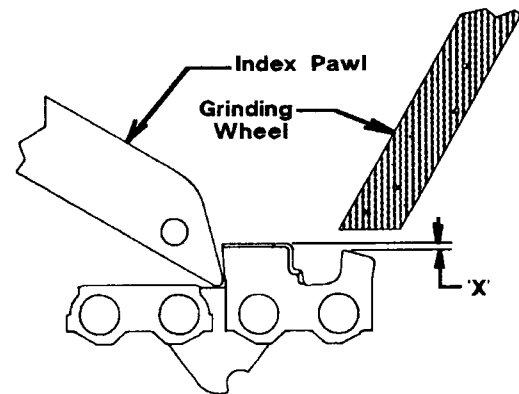

FIG 2-32
Depth gauges should be maintained at the saw chain manufacturer's recommended setting (X). Use a 1/4" grinding wheel with the bottom of the wheel ground flat (See Figure 2-32). Position the clamping plate line directly under the center of the wheel and set the depth of grind to grind the depth gauge level to the manufacturer's specifications. Position the depth gauge directly under the grinding wheel and then adjust the pawl to the back side of the tooth. Grind the depth gauges by clamping and indexing as you would during the sharpening process.